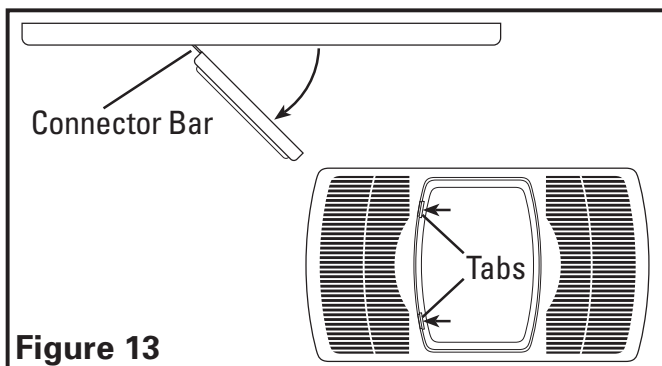

Figure 13
- Close the light lens and secure in place by swinging back into position and snapping the tabs in place (**Figure 13**).